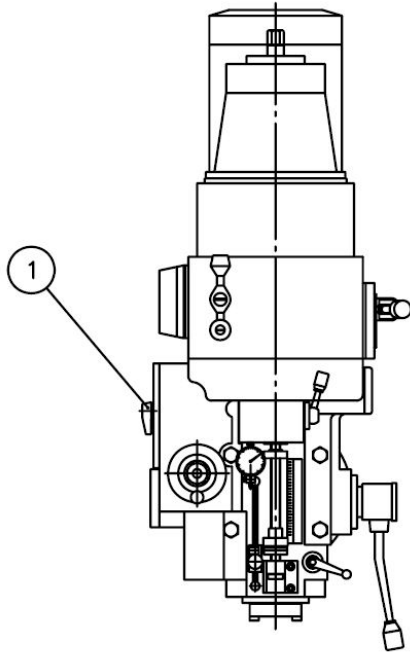

Fig.14
- (2) Select the necessary feed amount (0.048, 0.096, 0.192mm) per revolution with the vertical feed selection knob (Fig.14 (1))